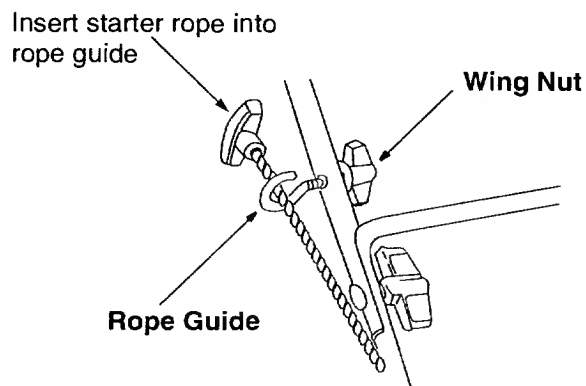

Figure 5
- The rope guide is attached to the right side of the upper handle. Loosen the wing nut which secures the rope guide. For location of the wing nut, see Figure 5.
- With the spark plug wire disconnected and grounded, hold the blade control handle against the upper handle, and pull the starter rope out of the engine. Release the blade control handle. Slip the starter rope into the rope guide. Tighten the wing nut. See Figure 5.